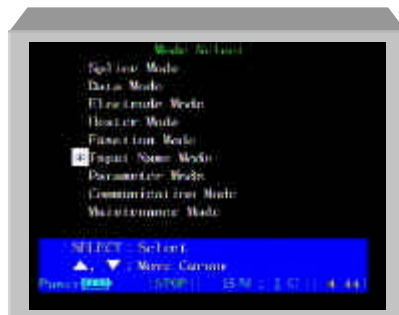

Figure 45. Entering Input Name Mode
1. Referring to Figure 45, choose INPUT NAME MODE and press "SELECT".